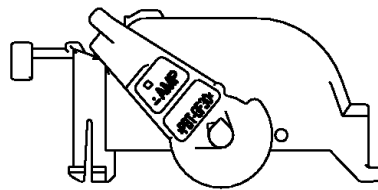

Fig. 16
NOTE Be aware Lever position. The operation should be done with same Lever position as shipping condition. See Fig. 16 for Lever shipping condition.
- (1) Confirm Lever is in final lock (in shipping condition from Tyco) condition. (See Fig. 16)